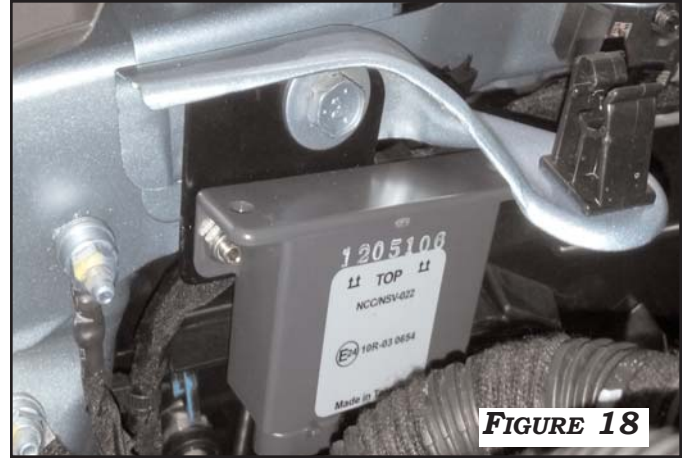

FIGURE 18
4. PLUG THE POWER/ILLUMINATION HARNESS AND DRL EXTENSION HARNESS INTO THE CONTROL MODULE. MOUNT THE CONTROL MODULE USING THE PRE-EXISTING BOLT UNDER THE ENGINE HOOD HOLDER. **FIGURE 18**